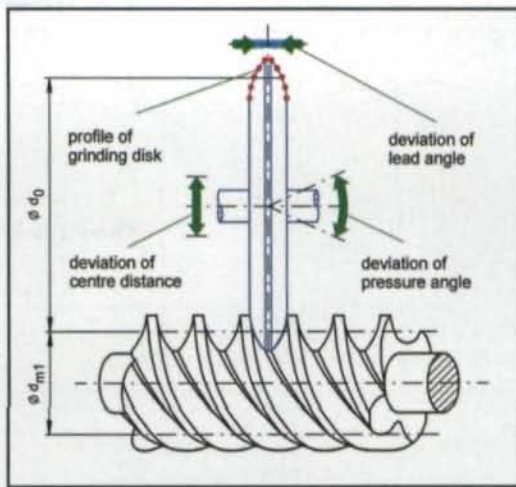

Figure 2—Derivation of the worm contour by simulating the grinding process.
**Calculation of the contour of the worm.** The contour of different types of worm flanks can be described by simulating the final manufacturing process, which is usually done by grinding or cutting. In accord with DIN 3975, the worm's flank contours that are ground include a concave profile in the axial section, an involute profile in the transverse section and a convex profile in the axial section. The flank contours that are cut include a straight profile in the axial section and a straight profile in the normal section (Ref. 4). The grinding disk, for example, can be characterized by the diameter  $d_0$ , the pressure angle  $\alpha_0$  and the profile (see Figure 2).